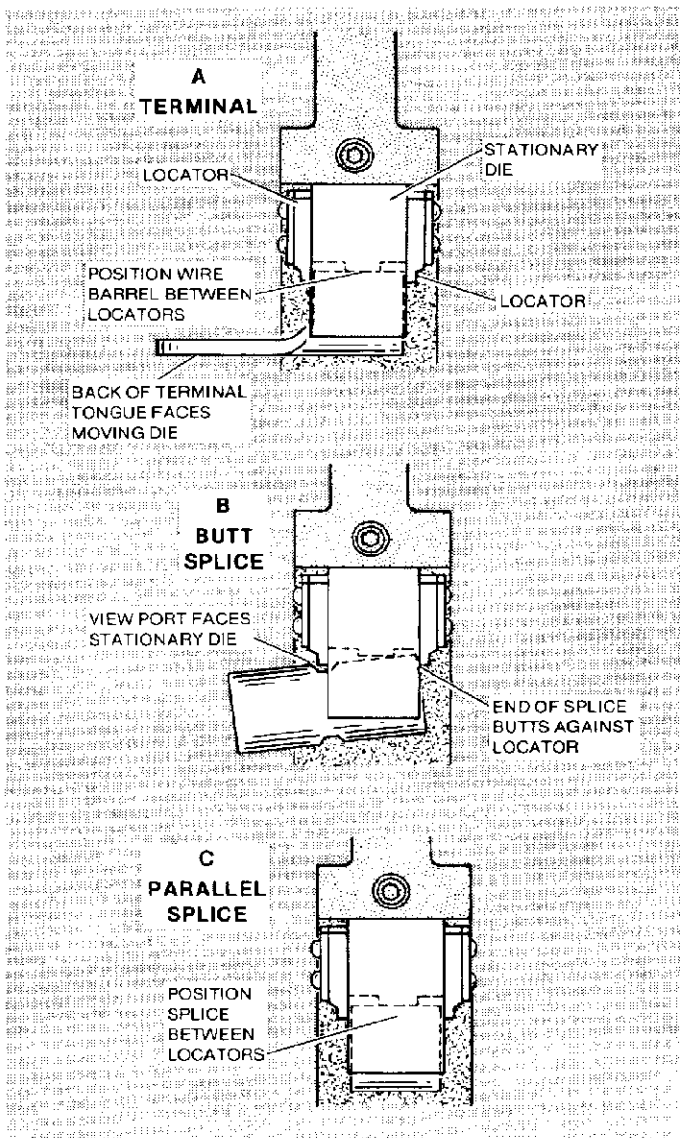

Figure 4
- Position terminal wire barrel between locators of stationary die as shown in Figure 4, Detail A. Back of terminal tongue must face moving die.
- Position butt splice in stationary die so that end of splice butts against locator as shown in Figure 4, Detail B. View port in splice faces stationary die.
- (a) Position splice between locators as shown in Figure 4, Detail C.